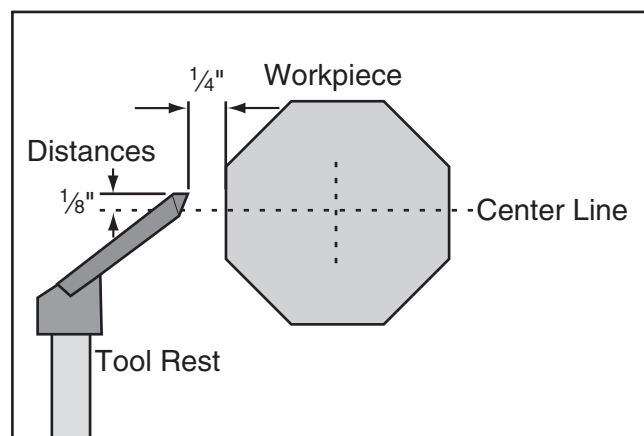

Figure 24. Tool rest position relative to workpiece.
2. Position the tool rest approximately $\frac{1}{4}$ " away from the workpiece and approximately $\frac{1}{8}$ " above the workpiece center line, as shown in **Figure 24**.